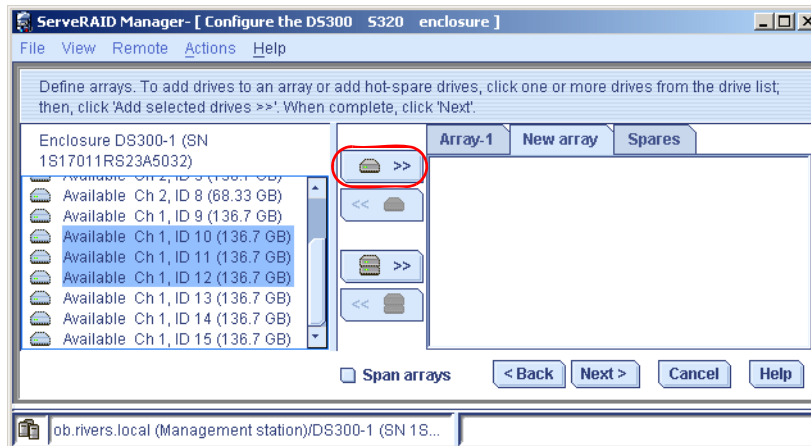

Figure 4-61 Selected drives for the new Array-2
6. Click the newly created tab **New array**. Select drives with the ID 10, 11 and 12 and assign them to **New array**. This array will be used together with the array created in the next step to build a spanned array with a RAID level 50. Click the **Add selected drives to array** button. See Figure 4-61.